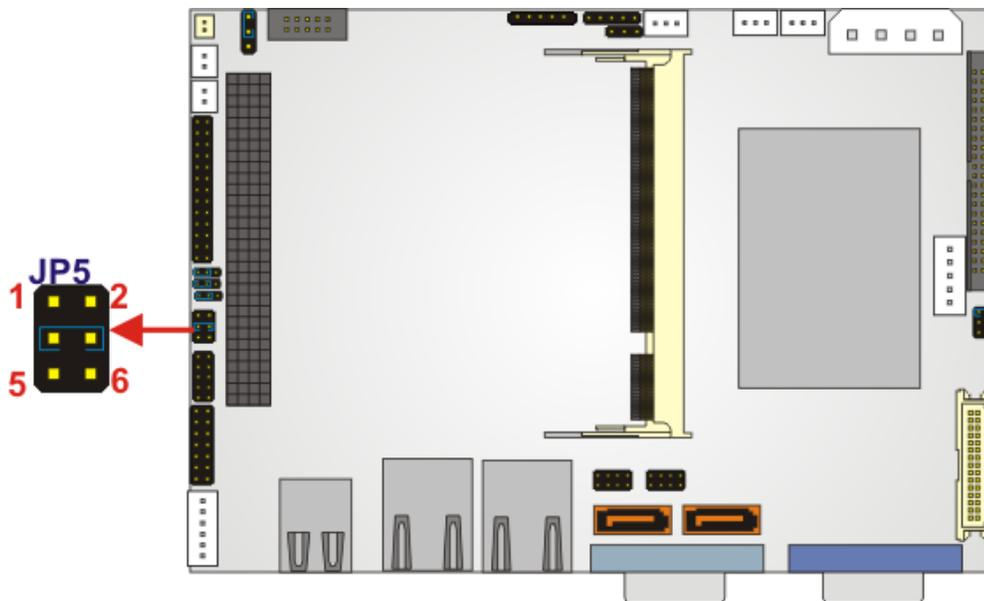

Figure 4-6: COM2 Voltage Setup Jumper Pinout Locations
- Jumper Location:** See **Figure 4-6**
The COM2 Voltage Setup jumper location is shown in **Figure 4-6** below.